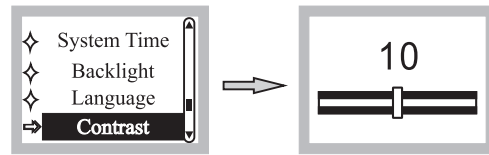

Fig. 20
(6) Changing LCD Contrast, Fig. 20.